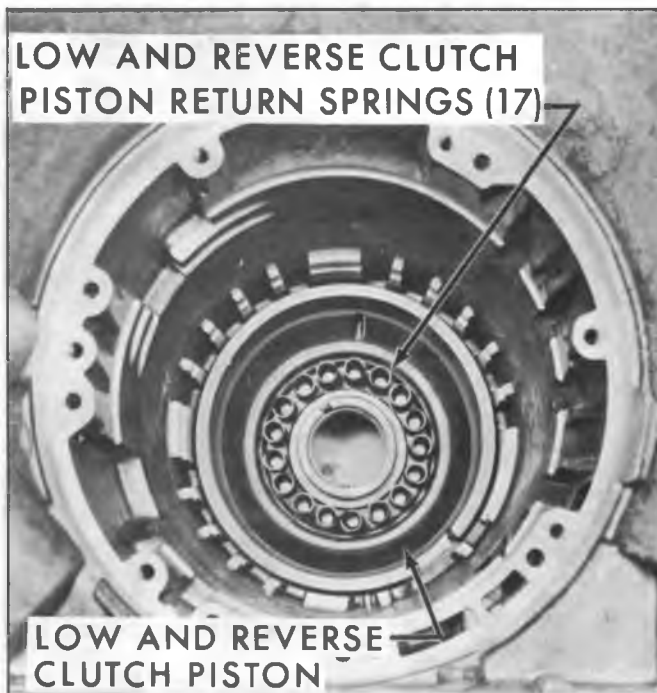

Fig. 47M--Low and Reverse Clutch Piston Springs and Piston
22. Remove seventeen (17) piston springs from piston (fig. 47M).